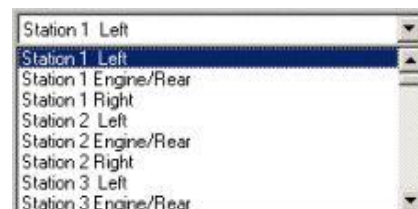

Figure 85: Workplace Selection List
- Use the selection list to display any work station. (*Please refer to the Figure 85*).